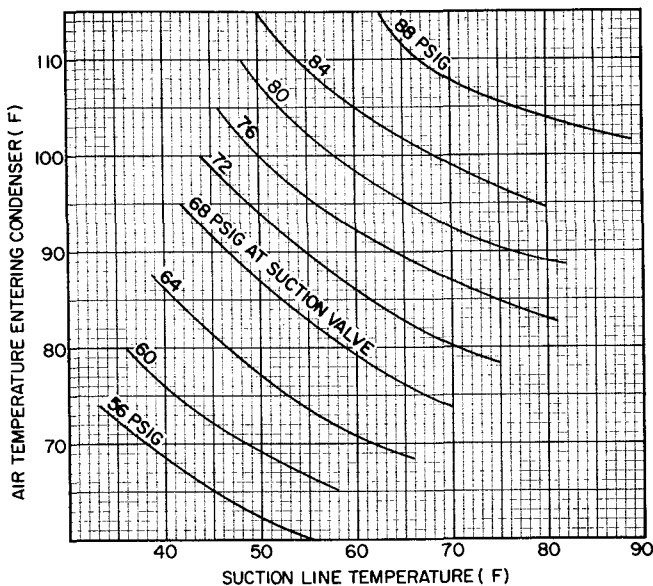

Fig. 7 — Charging Chart (Non TXV Systems)*
CHARGING CHART METHOD — Use Charging Chart, Fig. 7 and the following procedure.
5. Refer to Charging Chart (Fig. 7). Find air Temperature Entering Condenser and project horizontally to curve showing suction pressures (psig at Suction Valve).